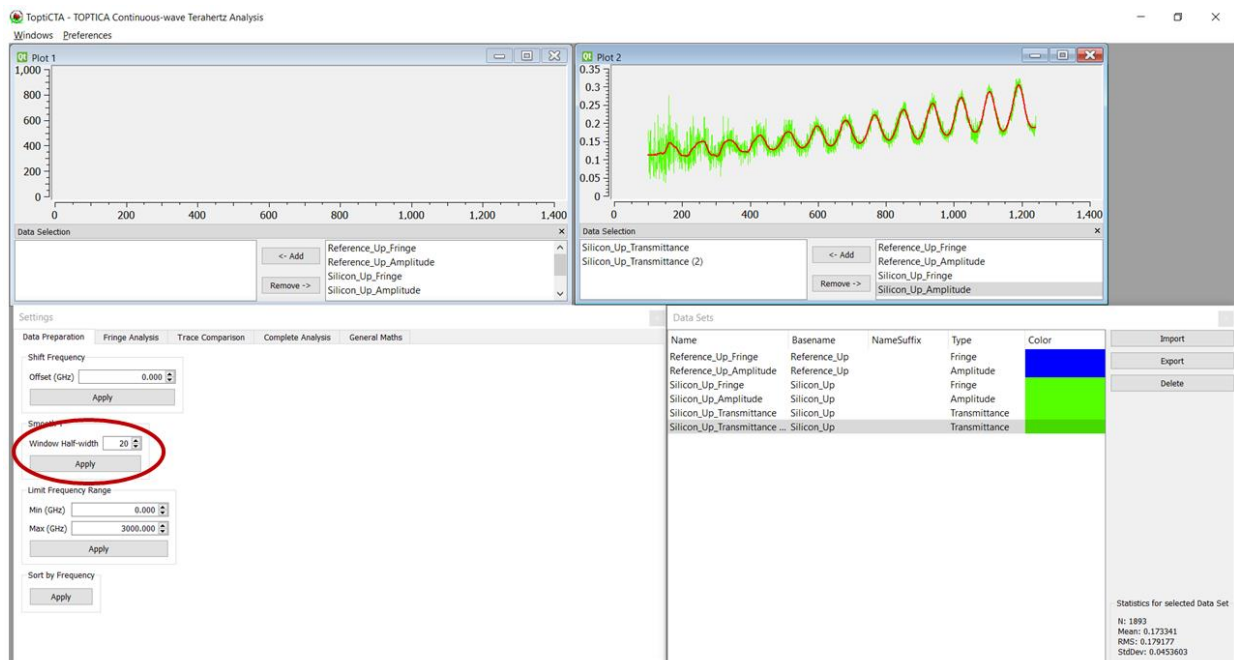

Fig. 9: Smoothing. Plot 2 shows the transmittance spectrum of a piece of silicon, without (green line) and with smoothing (red).
6. In case you want to smooth the transmittance spectrum, click on the respective dataset in the Data Selection Window. Return to the Data Preparation tab in the Settings + Analysis Window. Define the Window Half-Width (i.e., halfwidth of a moving average filter) and click **Apply**, as shown in Fig. 9.